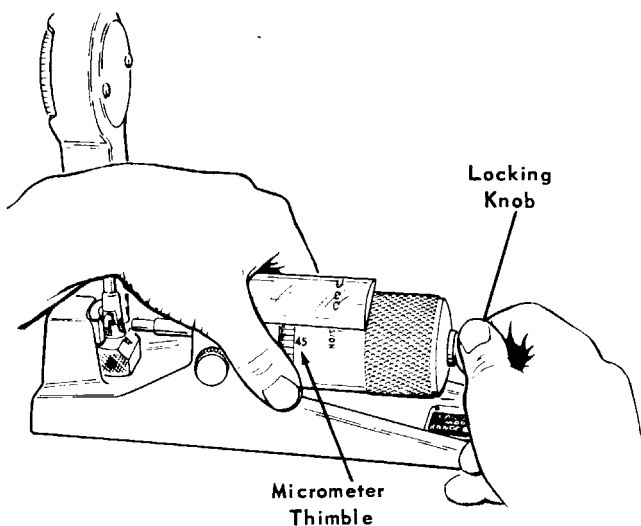

FIGURE 17
14. Holding the Micrometer Thimble at this position, **CAREFULLY** turn the Locking Knob until it is finger tight. See Figure 17.